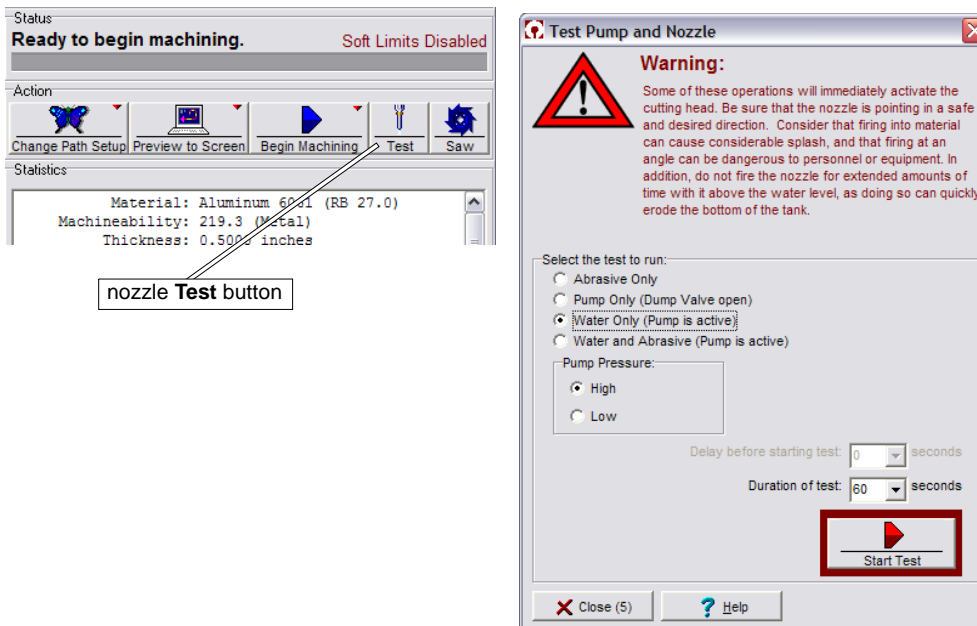

Figure 4-7: Click the Test button to open the Test Pump and Nozzle dialog box
- Again, click the **Test** button (Figure 4-7) and this time select **Pump Only (Dump Valve open)** and either **Low** or **High** depending on your previous selection (step 8).